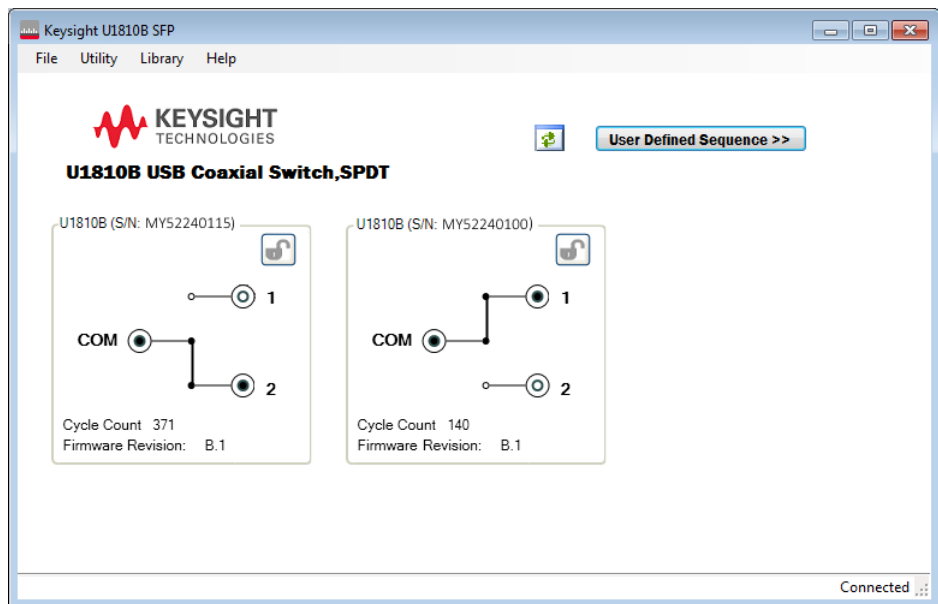
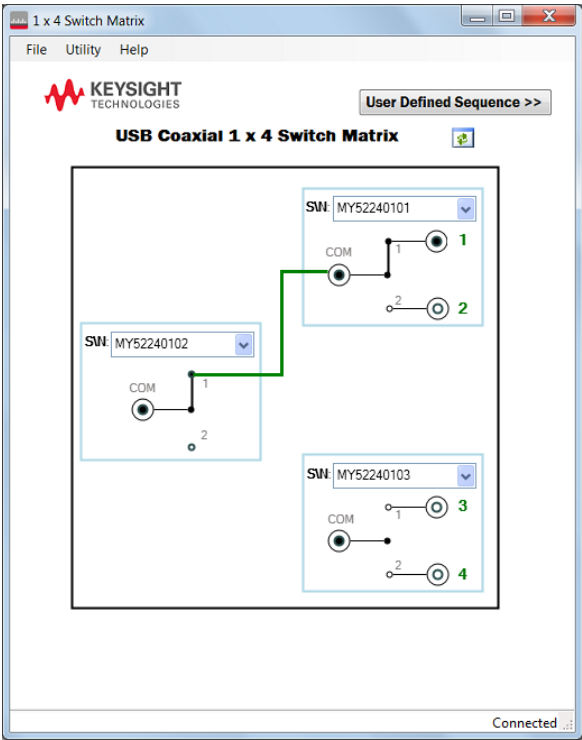

Figure 4-4 U1810B main SFP interface
Figure 4-5 1 x 4 Switch Matrix window
- On the U1810B main SFP interface as shown in **Figure 4-4**, click either Port 1 or Port 2 of the switch to make a connection with the Common (COM) port.
- On the U1810B main SFP interface as shown in **Figure 4-4**, click **Library > 1 x 4 Switch Matrix** from the menu bar to open the 1 x 4 Switch Matrix window, as shown in **Figure 4-5**.
- On the main SFP interface as shown in **Figure 4-4**, click **Utility > Clear Cycle Count** from the menu bar to open the Clear Cycle Count window as shown in **Figure 4-7**.
- On the main SFP interface as shown in **Figure 4-4**, click **Utility > Reset** from the menu bar to reset the U1810B.
- On the main SFP interface as shown in **Figure 4-4**, click **Utility > Driver Call Log** from the menu bar to open the Driver Call Log window as shown in **Figure 4-8**.